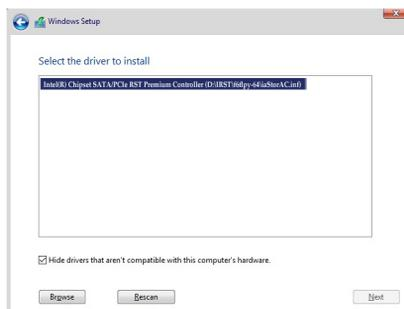

Figure 1
Then browse to the USB flash drive and select the location of the driver. Select **Intel(R) Chipset SATA/PCIe RST Premium Controller (I:IRST\rdpy.sataSataCtrl.inf)** and click **Next** to load the driver and continue the OS installation. (Figure 1)